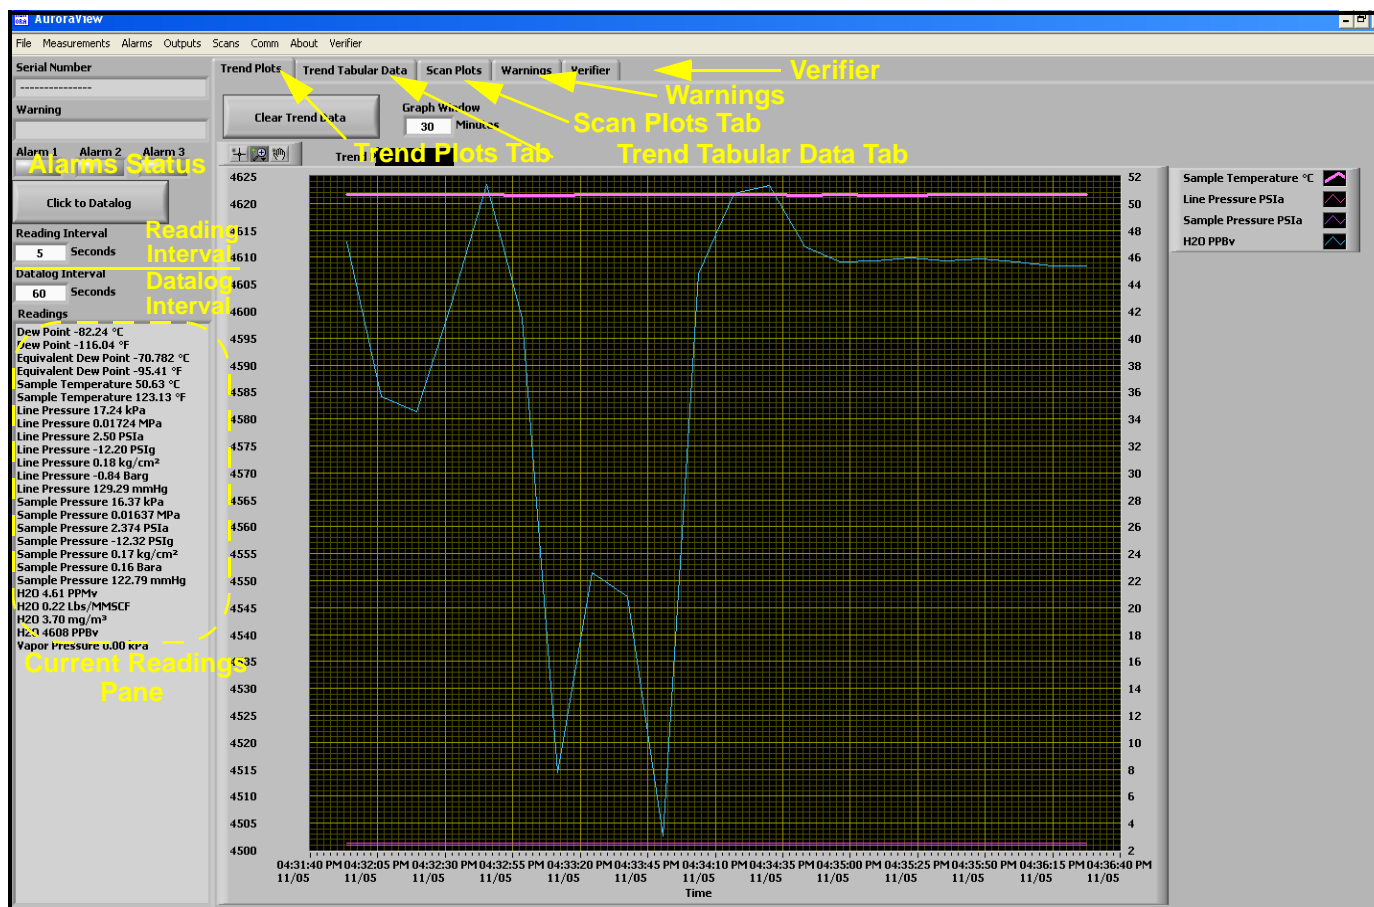

Figure 37: AuroraView Main Screen
2. AuroraView will boot up and display a screen similar to Figure 37.